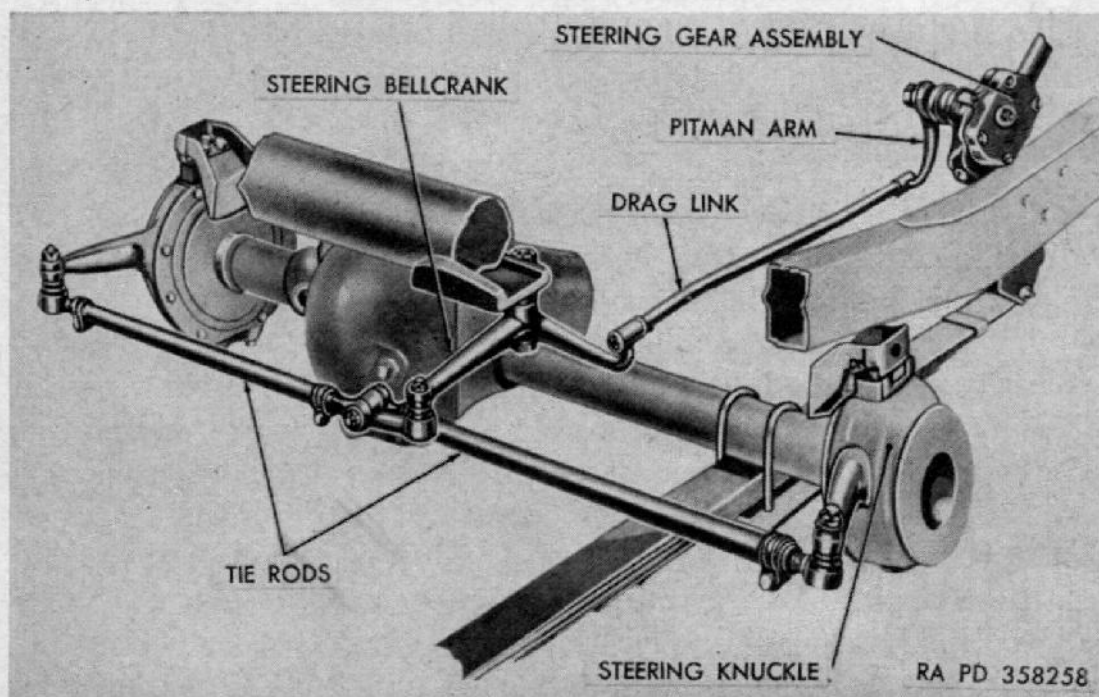

Figure 122. Steering system.
(1) *General.* The steering system (fig. 122) consists of the steering gear, drag link, steering bellcrank, and tie rod assemblies. The steering system is of conventional design with all units interconnected to exert force either to the right or left by turning the steering wheel. As the Pitman arm attached to the steering gear swings in an arc, force is exerted laterally on the drag link either forward or back. This action pivots the bellcrank, thereby moving the tie rods and wheels to the right or left. Tie rods and steering bellcranks are covered in paragraphs 169 through 180.
- (2) *Drag link* (fig. 122). The drag link is of the adjustable ball and socket type and connects between the steering gear and the steering bellcrank.
- (3) *Steering gear assembly* (fig. 122). The steering gear is of the cam and lever type with a variable ratio cam and is mounted on the left side of the vehicle. The steering wheel is of the three spoke, safety type incorporating a horn button.
*a. Removal.* Remove nut and flat washer from arm shaft. Remove Pitman arm (fig. 122) by driving a wedge type remover between Pitman arm and steering gear housing. If a remover is not available, use a chisel and drive between the Pitman arm and the steering gear housing. Then, using a bar, strike rear side of Pitman arm to loosen it on the tapered serrations on the arm shaft.